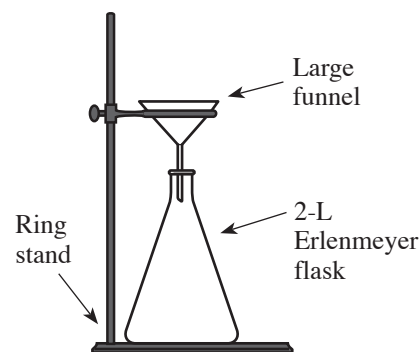

Figure 1.
1. Prepare Solution A by adding 0.1 g of luminol and 50 mL of 5% sodium hydroxide solution to approximately 800 mL of distilled or deionized (DI) water. Stir to dissolve the luminol. Once dissolved, dilute this solution to a final volume of 1000 mL with DI water.
3. Set up the demonstration container(s) as desired. A sample flask and funnel is shown in Figure 1.